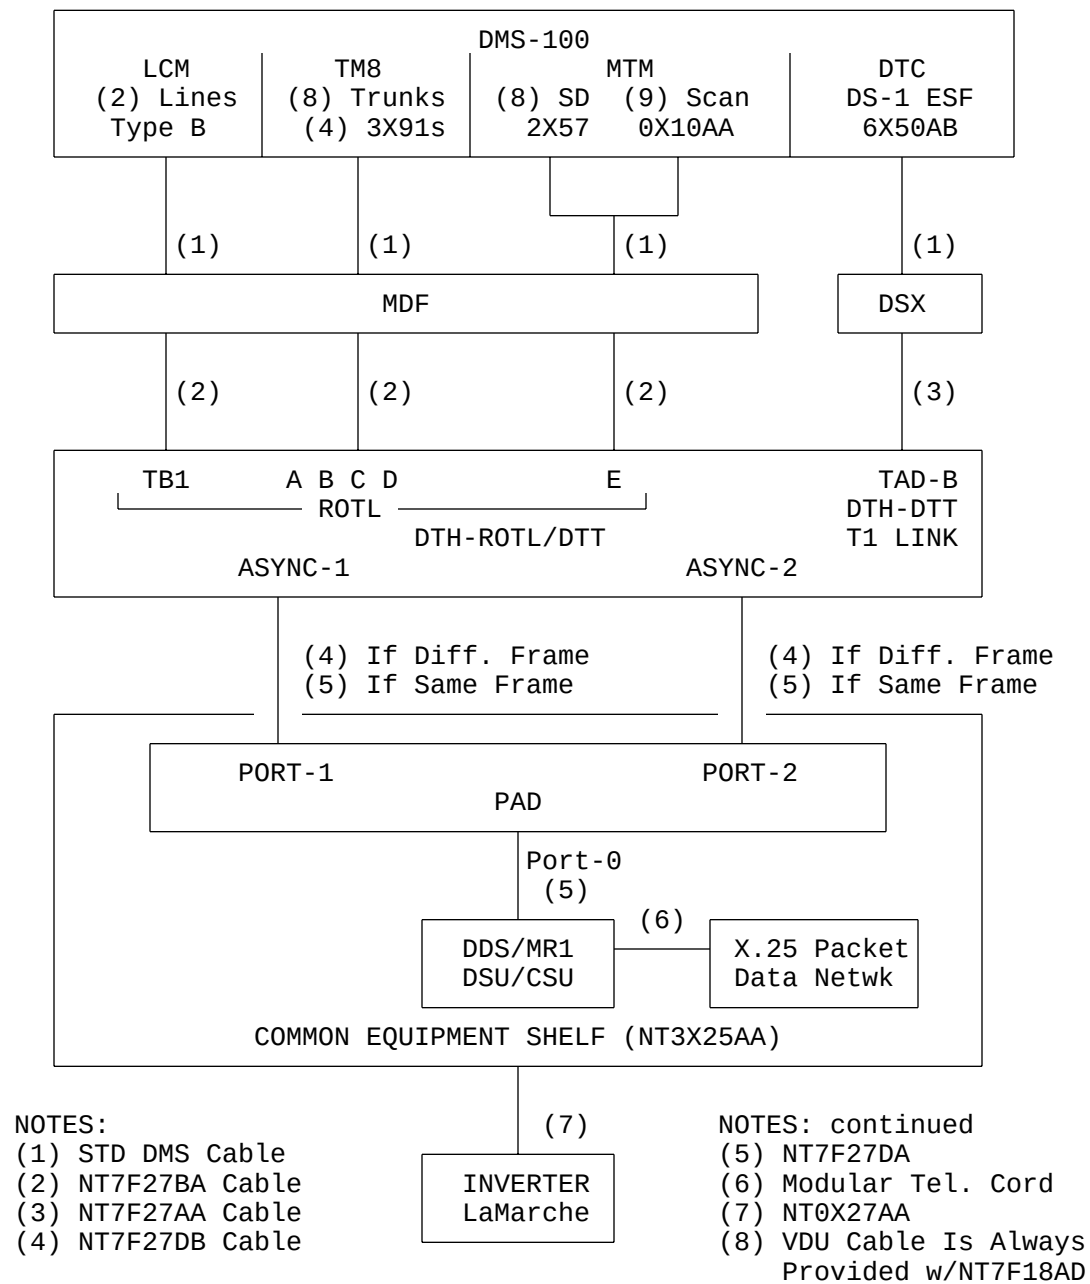

FIGURE 1: DTH-ROTL/DTT CONNECTIVITY DIAGRAM
3. Refer to Figure 1 for a typical DTH=ROTL/DTT Cabling Diagram.